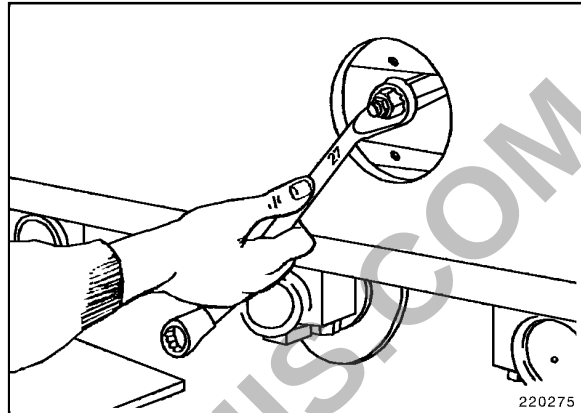

Fig. 2
- Place a ring spanner on the filler valve (Fig. 2).